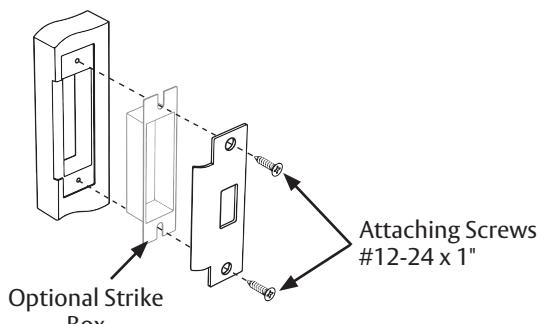

Figure 5-4
Install strike plate using two (2) #12-24 x 1" combination screws. (Figure 5-4)